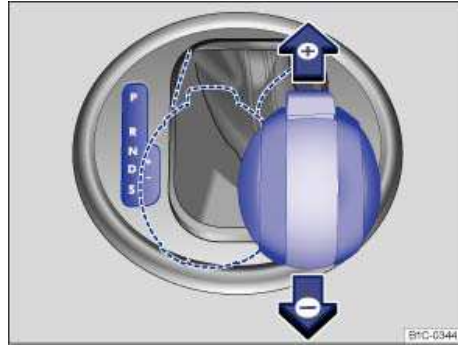

Fig. 120 Selector lever in Tiptronic position.
- Push the selector lever sideways to the right from Drive (D) position into the Tiptronic position ⇒  in *Automatic transmission: Selector lever*.
- Briefly push the selector lever forward (+) to upshift into a higher gear or backward (-) to downshift into a lower gear ⇒ fig. 120.